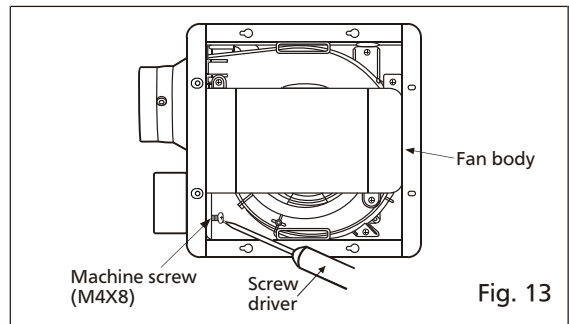

Fig. 13
1. Before installation, secure the fan body to adaptor by using machine screw (M4X8) (Fig.13). Secure the lighting unit to fan body (referring to Fig.6 of page 8).
1. Before installation, secure the fan body to adaptor by using machine screw (M4X8) (Fig.13 of page 10).